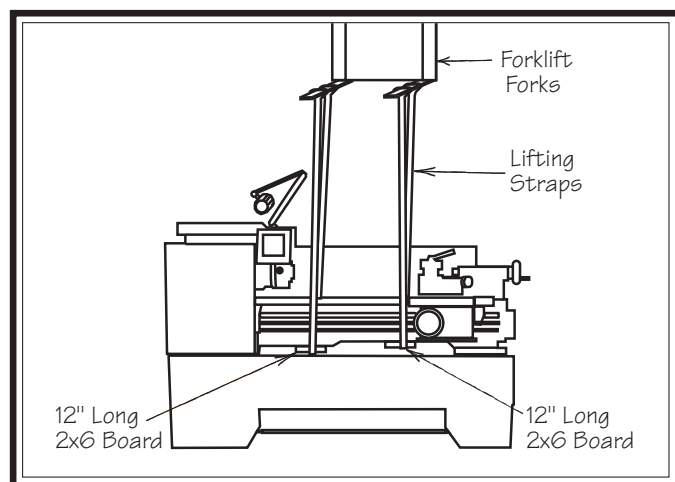

Figure 8. Lathe set up for lifting with forklift.
6. Attach the lifting straps to forklift forks or a hook and chain, as shown in **Figures 8–9**.